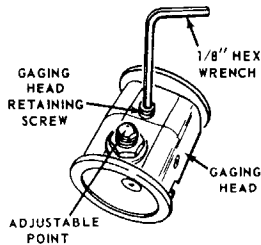

FIGURE 5
4. See Figure 5. If Adjustable Point is installed, remove it.